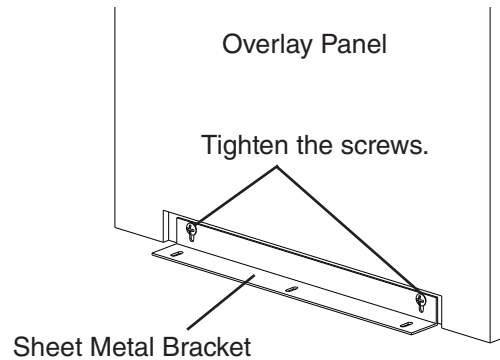

**Fig. 14**
- 2) Temporarily fasten the overlay panel to the door using 2 of the M4x25 pan head screws provided. See Fig. 14.